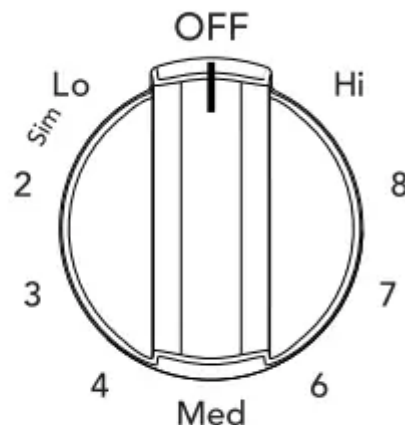

Figure 6: Single element knob
2. Push in and turn the surface control knob in either direction (Figure 6) to the desired setting (refer to the
Start most cooking operations on a higher setting and then turn to a lower setting to finish cooking. The surface control knobs do not have to be set exactly on a particular spot. Use the graphics provided as a guide and adjust the control knob as needed (see Figure 6).